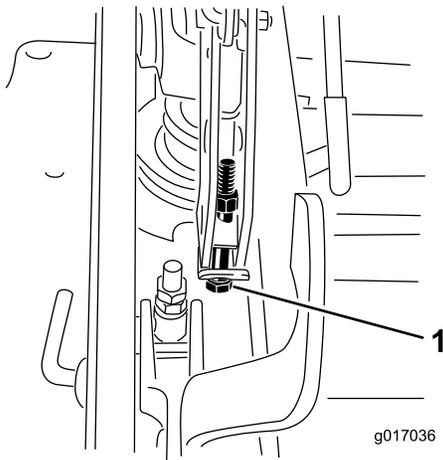

Figure 111
12. If the deck is too low, tighten the single-point-adjustment bolt by rotating it clockwise. If the deck is too high, loosen the single-point-adjustment bolt by rotating it counterclockwise (Figure 111).